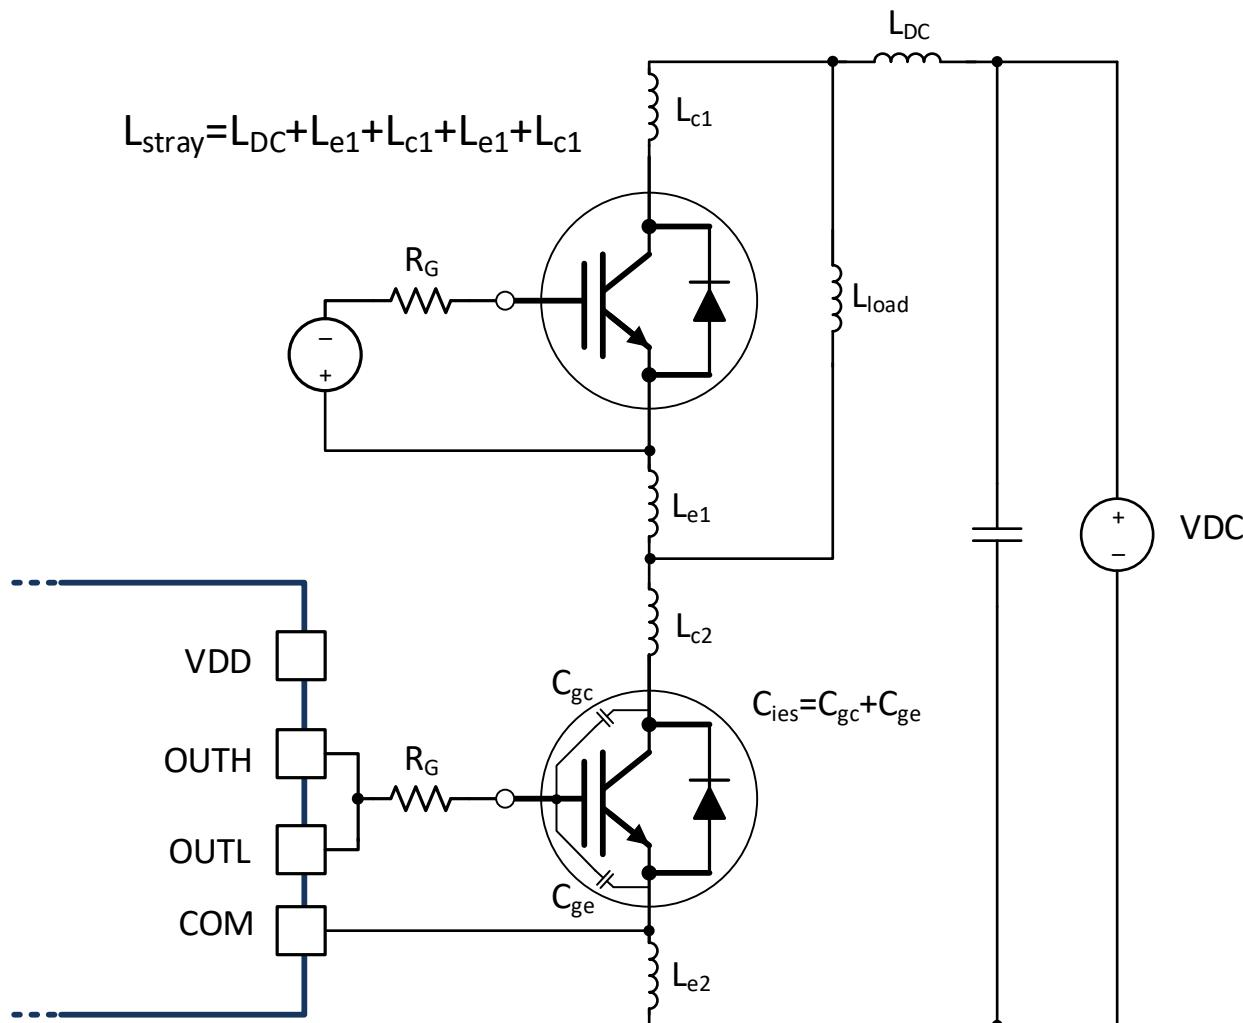

Figure 8-6. Stray Parasitic Inductance of IGBTs in a Half-Bridge Configuration
- L_{stray} is the stray inductance in the power switching loop, as shown in Figure 8-6.